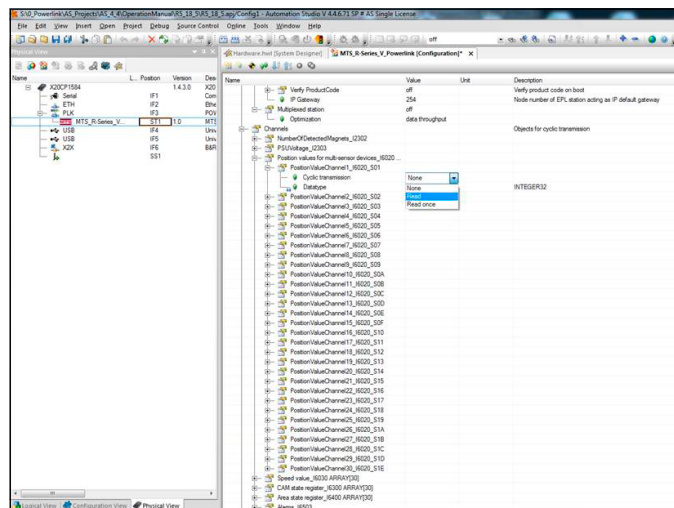

Fig. 78: Activating the mapping of the parameters of the group "Channels"
- Channels: Measurement data of the sensor, that can be transferred cyclically. To activate cyclic transmission of a specific data item, click on the data item column called "Value" and change the entry from "None" to "Read" (Fig. 78).